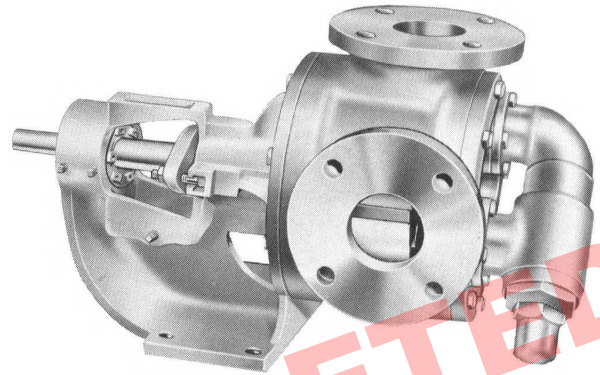

FIGURE 1
This manual deals only with Series 123 and 4123 heavy-duty Steel External Bracket Mounted Pumps. Refer to Figures 1 through 14 for general configuration and nomenclature used in this manual. Pump specifications and recommendations are listed in Catalog Section 151, Series 123 and 4123 Heavy-Duty Steel External Bracket Mounted Pumps.
4. Relief valve adjusting screw cap must always point towards suction side of pump. If pump rotation is reversed, remove pressure relief valve and turn end for end. **Refer to Figures 1 and 2.**